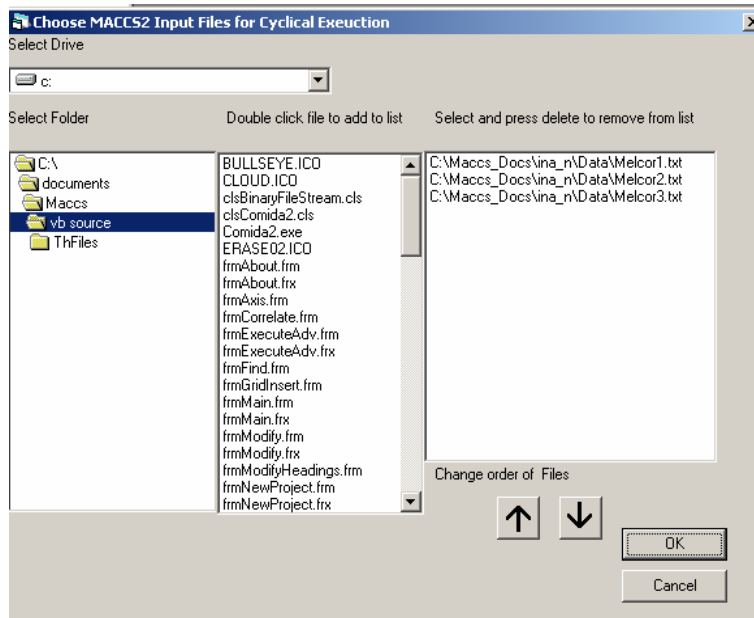

Figure 4-51 Choose Input Files for Cyclical Execution
- Select the file in the list on the right side of the form, as shown in Figure 4-51, and press the Delete key.
The *MACCS2 Cyclical File Set* option is activated on the properties form. The *Specify Cyclical MACCS2 Files* form is opened, and the files Melcor1.txt, Melcor2.txt, and Melcor3.txt are chosen as the cyclical file set, as illustrated in Figure 4-51.